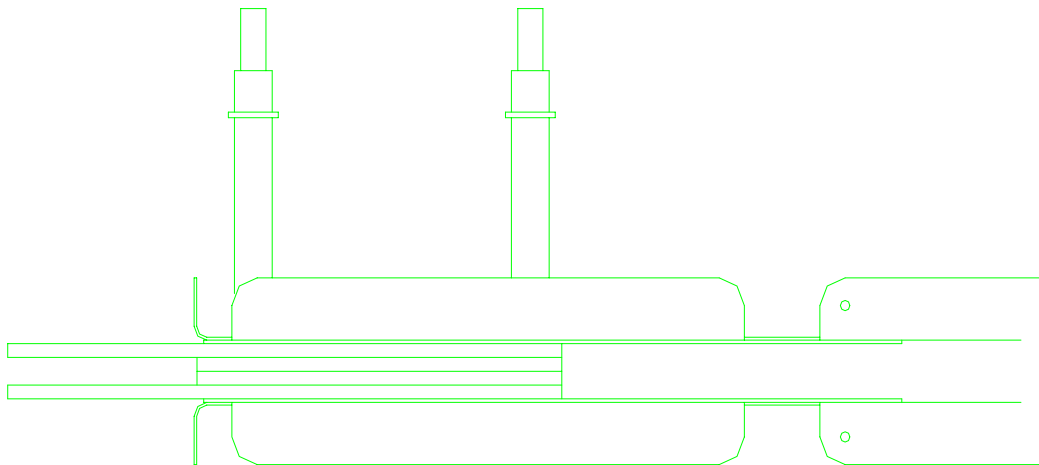

FIGURE 6
- 28) Trim a RBULK-1 to fit in the root rib channel and against the FUS-345's. Cut and drill a doubler for the bulkhead as you did for the station 5 bulkhead Figure 6. Bend the top flange of the bulkhead to the angle of the cabin top.